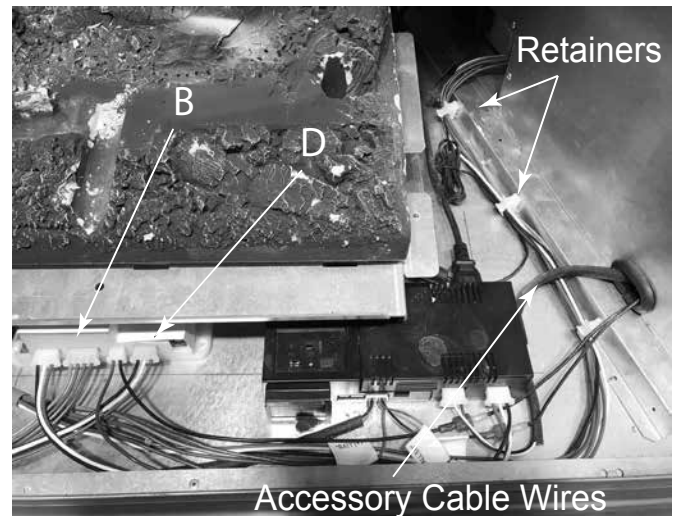

Figure 8.3 Connectors
- Inside of the appliance, route accessory cable wires through cable retainers as shown. See Figure 8.3.
- Plug 3-pin and 4-pin connectors into the appropriate connector B and D on the power vent control module. See Figure 8.3.